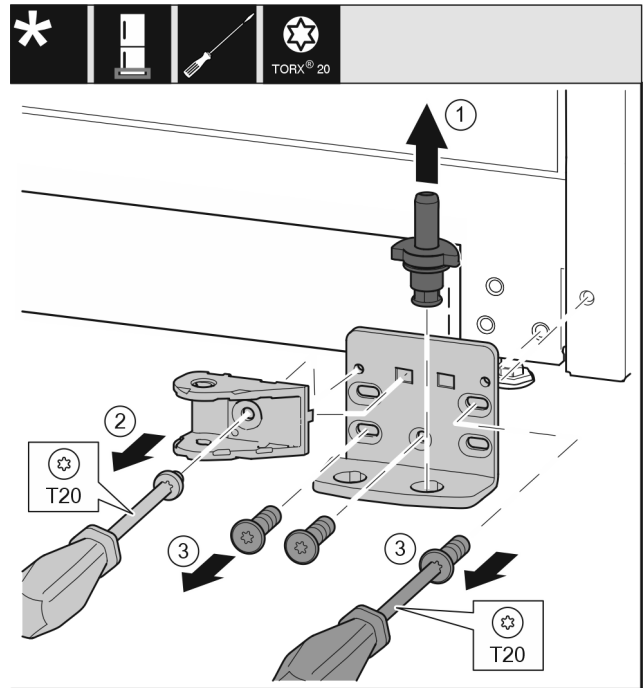

Fig. 35 *
- ▶ Pull the bearing bolt Fig. 35 (1) out upwards completely.*
- ▶ Use screwdriver to unscrew the screw Fig. 35 (2) and remove the closing damper connection.*
- ▶ Use screwdriver to unscrew the screws Fig. 35 (3) and remove the swap bearing block.*